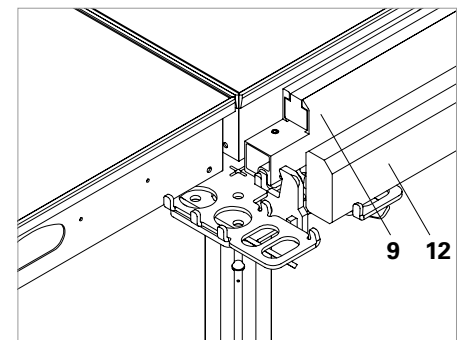

Fig. A5.13
- Edge Beam SRT (9) and Filler Timber SPH (12) or timber provided by the contractor with  $b = 3.8 - 8$  cm and  $h = 9.8$  cm. (Fig. A5.13)